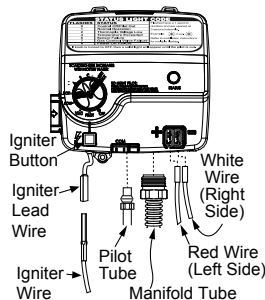
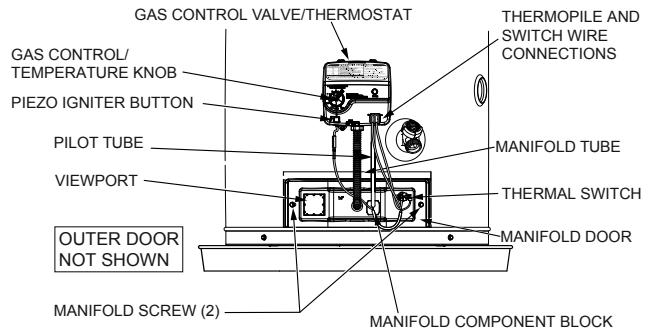

FIGURE 32.
FIGURE 33.
5. Disconnect the pilot tube (7/16" wrench), the igniter wire from the igniter lead wire, and manifold tube (3/4" wrench) at the gas control valve/thermostat. (Figure 32). **NOTE:** L.P. Gas systems use reverse (left-hand) threads on the manifold tube.
6. Use needle nose pliers to disconnect the white (-) thermopile wire from the gas control valve/thermostat (Figure 32). Then disconnect both red thermal switch wires from the thermal switch on the old manifold door. (Figure 33).
8. Reconnect the igniter wire (Figure 32).
4. Disconnect the igniter wire from the igniter lead wire. Use needle nose pliers to disconnect the red (+) and white (-) thermopile wires. Disconnect pilot tube (7/16" wrench) and manifold tube (3/4" wrench) at the gas control valve/thermostat (Figure 32). **NOTE:** L.P. Gas systems use reverse (left-hand) threads on the manifold tube.